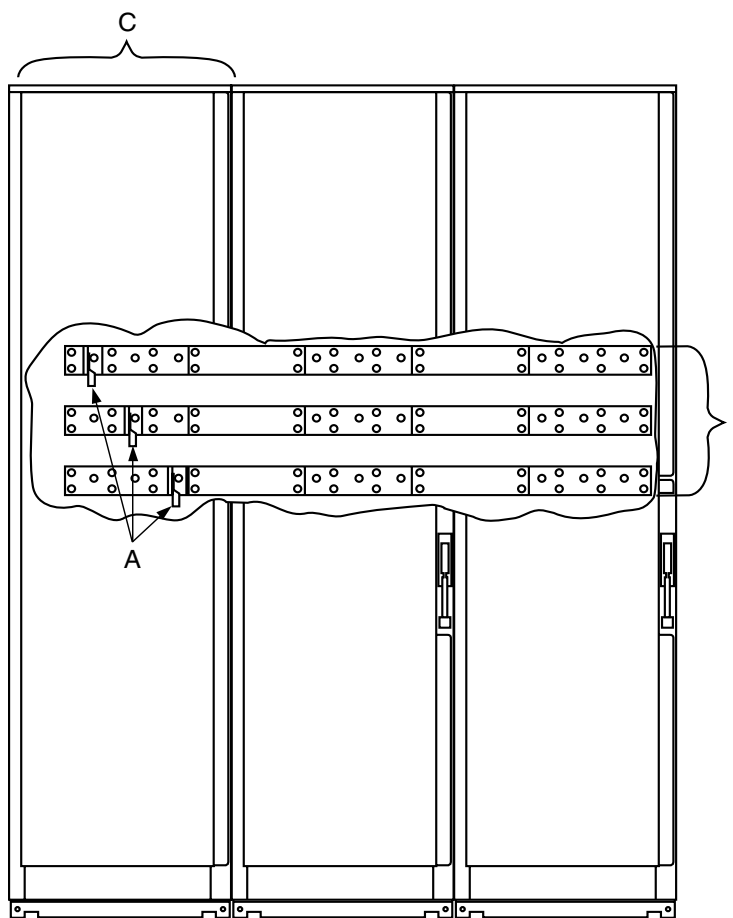

Figure 5 Line Cable Terminations – Multiple Controllers
Two or more controllers can be bused together by a horizontal power bus (Fig. 5, item B).
1. Line cable terminations on terminals (Fig. 5, item A) in incoming line cable compartment (Fig. 5, item C).